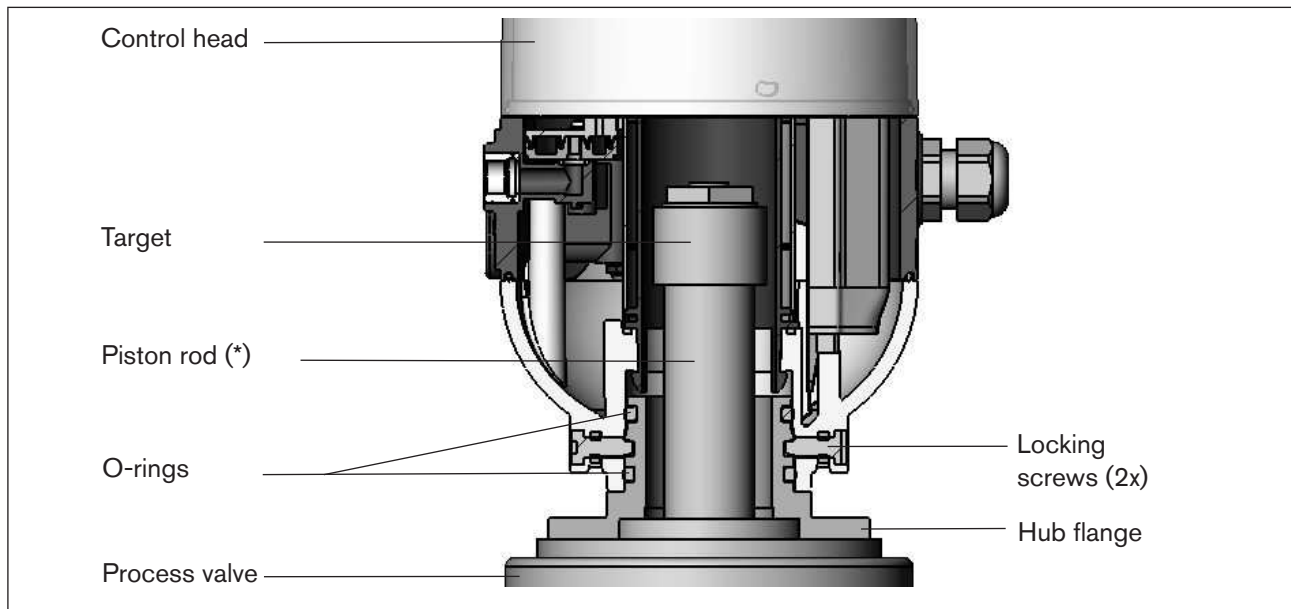

Fig. 11: Schematic diagram of the control head - process valve adaptation
- Secure control head with the two locking screws (shoulder screws M5) in the middle groove of the hub flange to prevent it from being pulled off the hub flange – tightening torque: max. 3.2 Nm (see "Fig. 11: Schematic diagram of the control head - process valve adaptation").